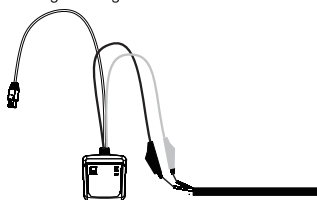

Figure 5 Continuity test
9. Continuity test (see Figure 5)